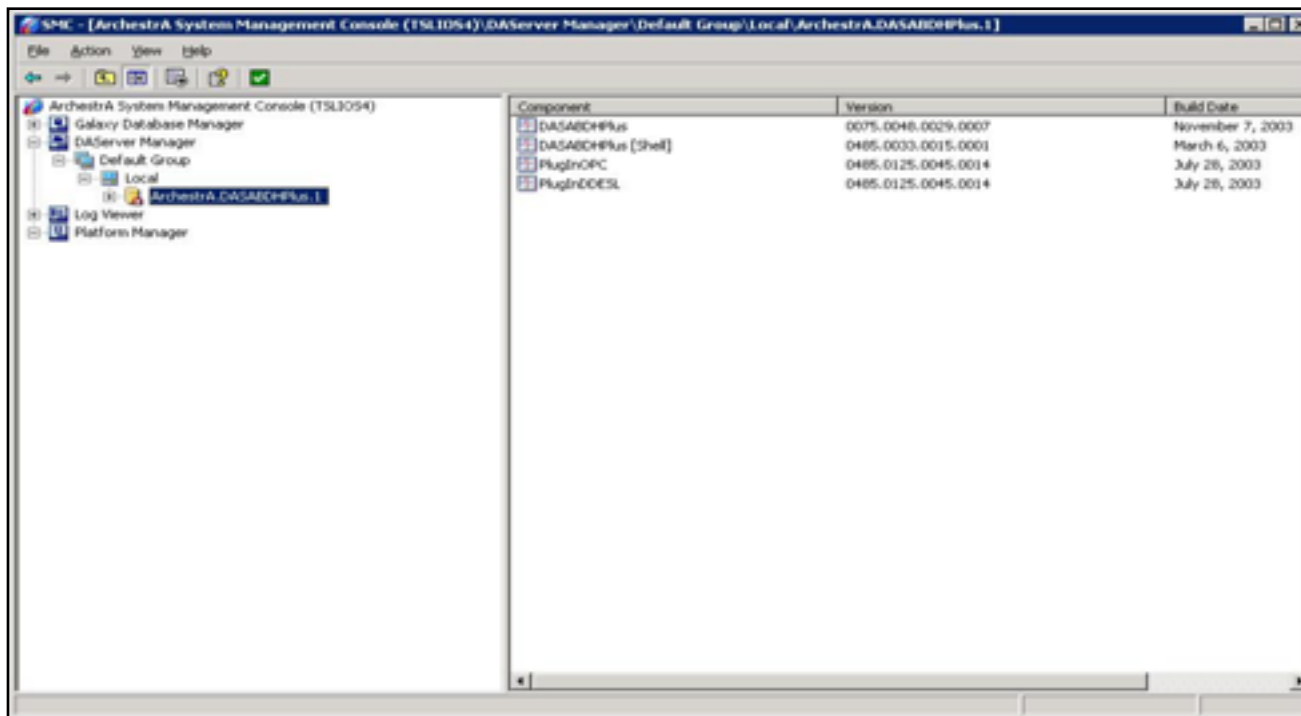

Figure 12: Orchestra.DASABDHPlus.1
3. Locate **Archestra.DASABDHPlus.1** as shown in Figure 12 (below):